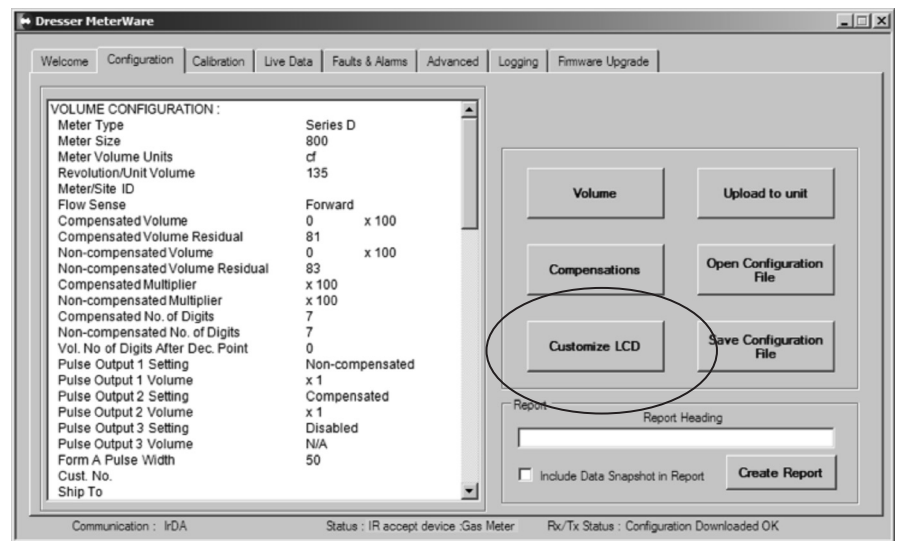

Figure 10.1 - Configuration screen in Dresser MeterWare
1. Using the Dresser MeterWare software, go to the **Configuration** screen (Figure 10.1), and select **Customize LCD**, which will open the **LCD Settings** screen.